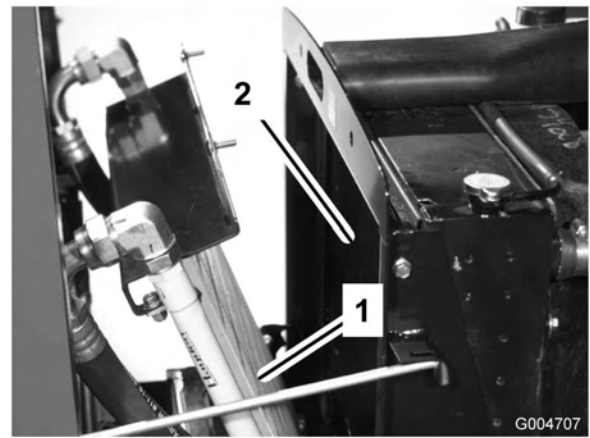

Figure 61
3. Pivot the oil cooler rearward. Clean both sides of the oil cooler and radiator area (Figure 61) thoroughly with compressed air. Start from the front and blow the debris out towards the back. Then clean from the back side and blow towards the front. Repeat procedure several times until all chaff and debris is removed